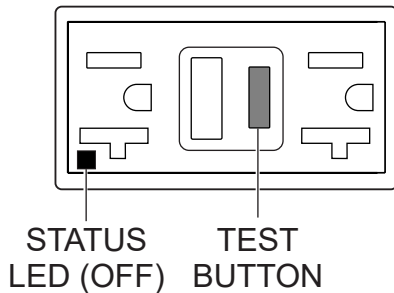

Figure 79. GFCI Receptacle (OFF)
4. Press the **TEST** button (Figure 79) on the GFCI receptacle and verify that the status LED turns **OFF**.